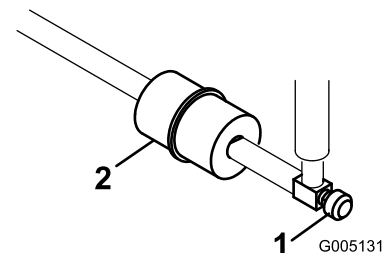

Figure 53
An in-line filter is incorporated into the fuel line between the fuel tank and carburetor (Figure 53). Replace the filter every 800 hours or sooner if the fuel flow is restricted. Be sure the arrow on the filter is pointing away from the fuel tank.
1. Close the fuel shut off valve, loosen the hose clamp on the carburetor side of filter, and remove the fuel line from the filter (Figure 53).
2. Place a drain pan under the filter, loosen the remaining hose clamp and remove the filter (Figure 53).